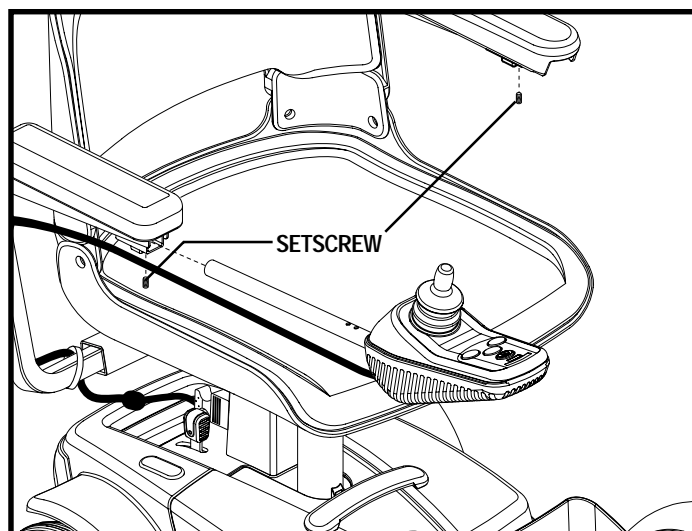

Figure 22. Controller Position
3. Flip up the armrest and loosen the setscrew. See figure 22.